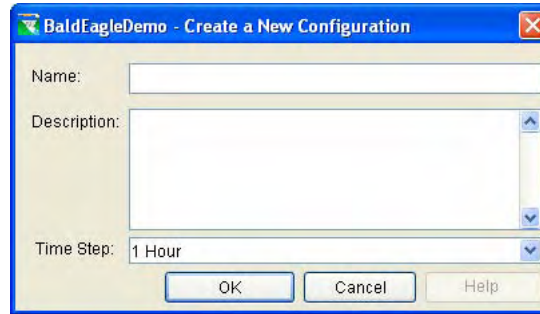

Figure 7.2 Create a New Configuration
- In the **Configuration** menu, click **New**. The **Create a New Configuration** dialog box (Figure 7.2) will open.